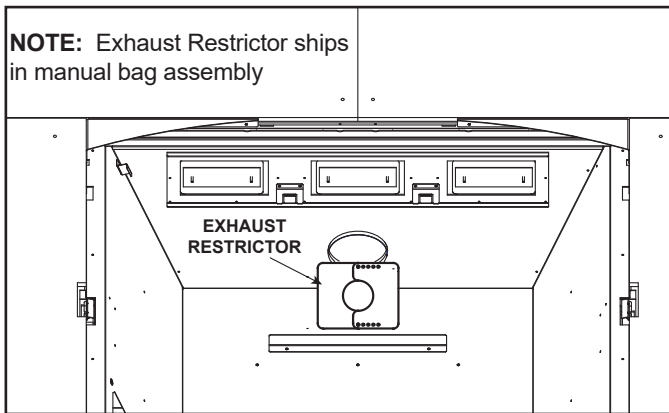

Figure 4.12 Exhaust Restrictor Installation
5. Center the two exhaust restrictor pieces on the vent at the setting selected in step 3 and secure in place by using two self-tapping screws. See Figure 4.12.
PVI-SLP-B: The baffle adjustment is measured using the holes on the indicator bar of the PVI-SLP-B baffle. This bar raises as the baffle is opened and lowers as the baffle is closed. Adjust the baffle by turning the screw located in the motor enclosure. See Figure 4.12 and 4.13.